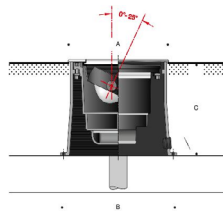
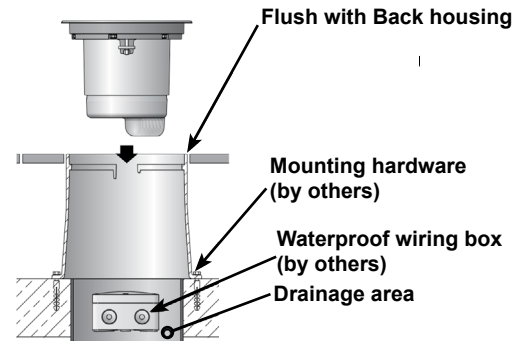

Figure 1: Mounting
Figure 2: Faceplate Detail
9. A customer-provided waterproof wiring box is required to connect the luminaire to the supply power. The waterproof wiring box must be installed directly under the luminaire as shown in Figure 1.
1. Position back housing on the stable foundation; anchor using hardware (by others). [Figure 1]
2. The finished surface must be level with or below the upper edge of the recessed housing to guarantee a proper seal of the luminaire faceplate. [Figure 1] [Figure 2]